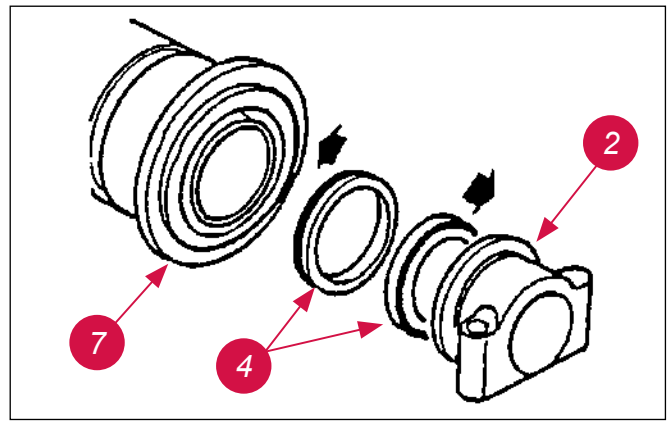

Fig. TSR-7 Seals – Install
2. Place the seals (4) in position in the roller body (7) and brackets (2), (fig. TSR-7). Be sure the seal lips face away from each other.